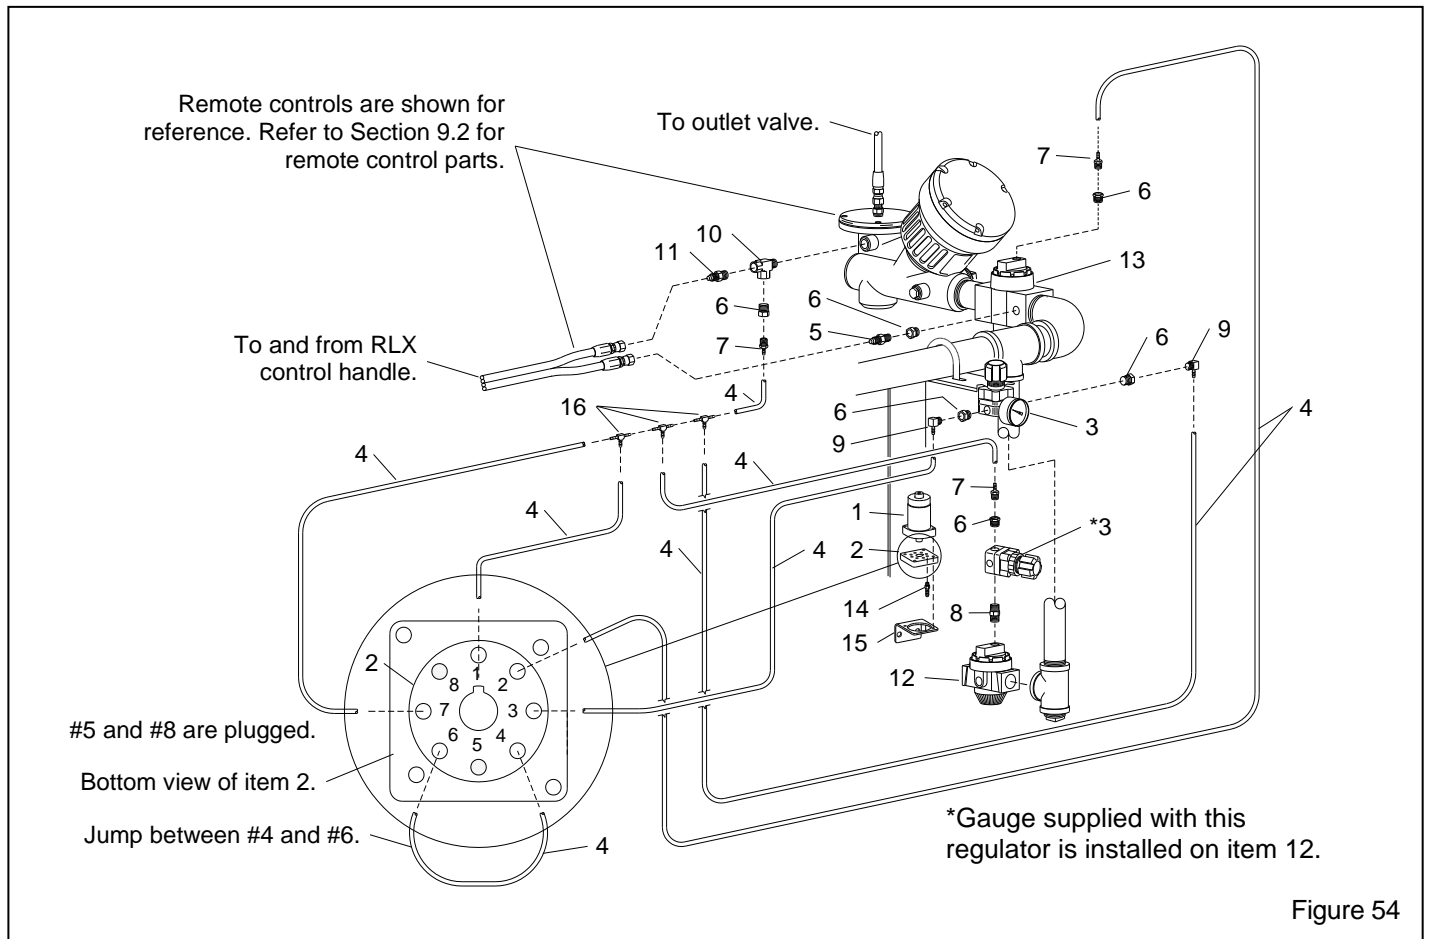

Figure 54
9.4 Low-Pressure Delay System – Figure 54